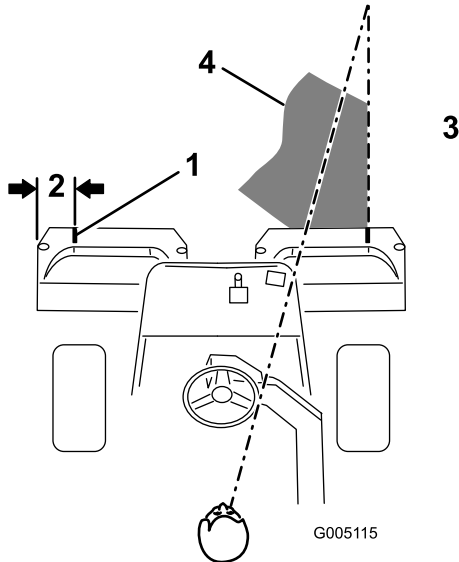

Figure 11
2. Either place a strip of white tape or paint a line onto each basket paralleling the outer edge of each basket (Figure 11).